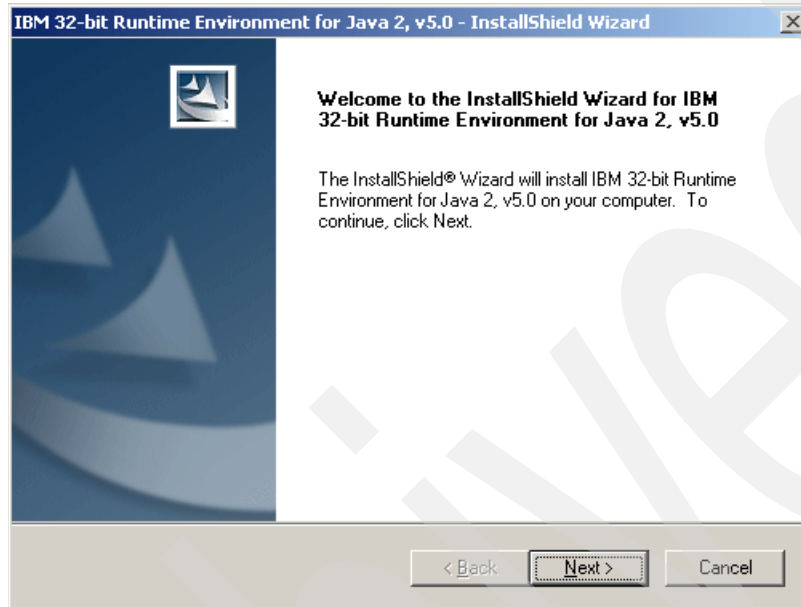

Figure 6-3 JRE InstallShield Wizard
1. Load the correct CD from the IBM TotalStorage Productivity Center - Limited Edition (TCP-LE) - LPP 5608-VC6 and select the JRE you want to install. In this example, we install JRE V5.0 SR2 (Windows/IA32). When the installation wizard opens, click **Next**, as shown in Figure 6-3.